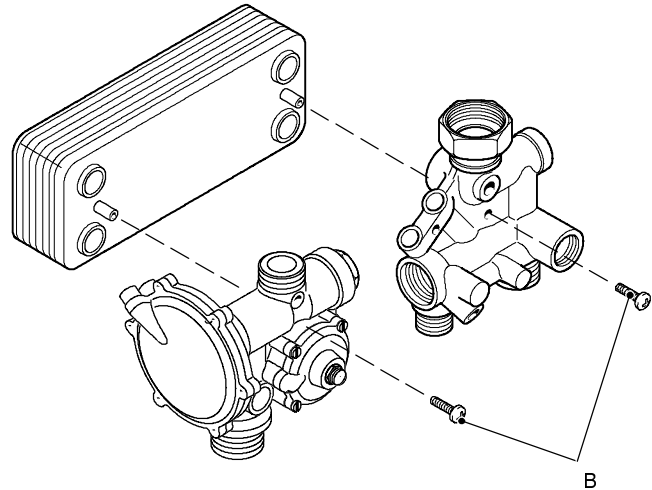

fig. 17
- 3 Completely unscrew the two screws B (in fig. 17 the right one is shown) which hold the exchanger to the brass deviator groups;